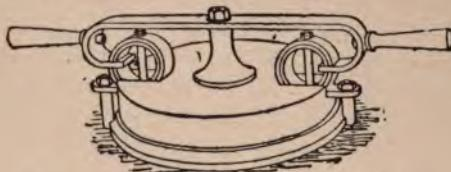

Fig. 57.—Drake & Gorham's Ring Contact Switch.
*Main Switches.*—These are fixed at the root of the system, or at the root of each branch circuit, according to the nature of the case. There are many patterns in use, and we can only notice one or two of them. One of the most efficient of the double break type is represented in Fig. 57, which shows Drake & Gorham's main double ring-contact switch. The cross-arm, provided with insulated handles, swings upon